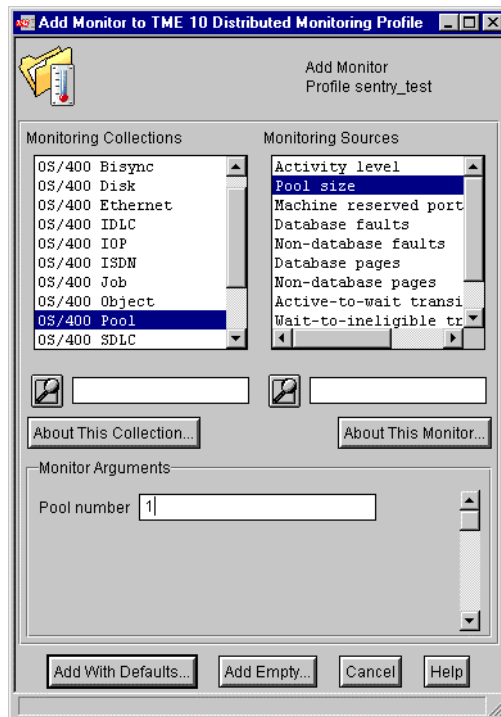

Figure 115. Selecting a monitoring collection and monitoring source
4. You will be presented with a list of possible monitoring collections. Select a collection from the left panel, and a list of monitors from that collection will be displayed on the right panel. Select the monitor you wish to use, in this case, the *Pool size* monitor from the OS/400 Pool collection as shown in Figure 115 on page 238. You will be asked, at the bottom of the screen, for any arguments needed for the monitor. Refer to the *Distributed Monitoring User's Guide 3.6*, GC31-8382, for details on a particular monitor.